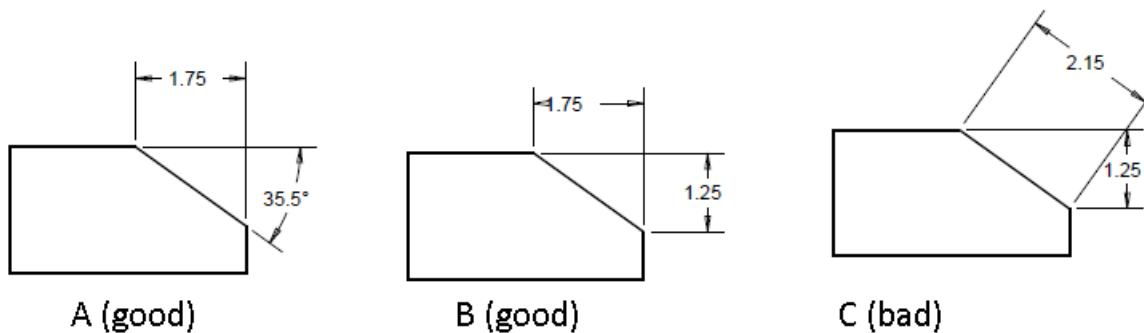

Figure 89
When dimensioning an angle, you have two primary methods to choose from. First you can give the angle and an edge length as shown in Figure 89 (A). Secondly you can dimension the two sides that would be the legs of a right triangle (Figure 89 (B)). What you do not want to do is dimension the length of the cut edge itself (Figure 89 (C)). This length is not used in making the angled feature, but is usually a by-product of making the angled feature, so would not be of any use to a technician making a piece.